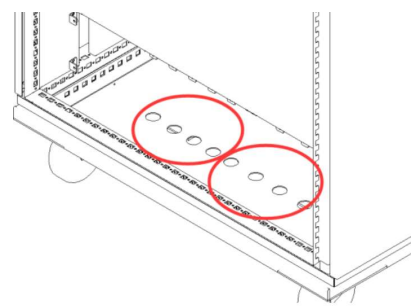

Figure 2-3 Entrance hole
Step 1: Remove the bottom baffle (Figure 2-2), the user can connect the input cables (PE, N, L1, L2, L3) and output cables (N, A, B, C) into the cabinet through the input side cable entrance holes, which are at the bottom of the cabinet (Figure 2-3).